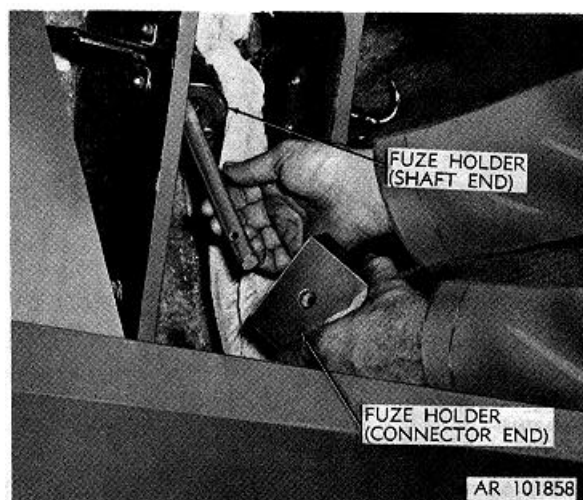

Figure 2-27. Removing connector end of fuze holder.
c. Grasp fuze holder (shaft end and connector end) and separate the two sections (fig. 2-27).